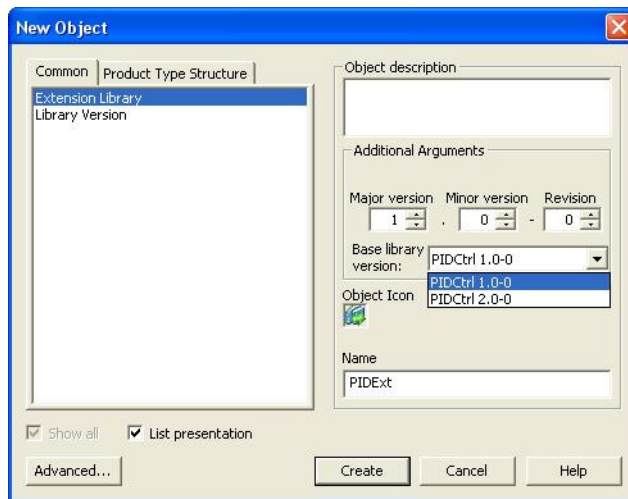

Figure 364. Creating New Extension Library - New Object Dialog Box
3. Select **Extension Library** and type the new library name in the **Name** field. Select version number for the new extension library and the version of the base library to connect with, refer to Figure 364.